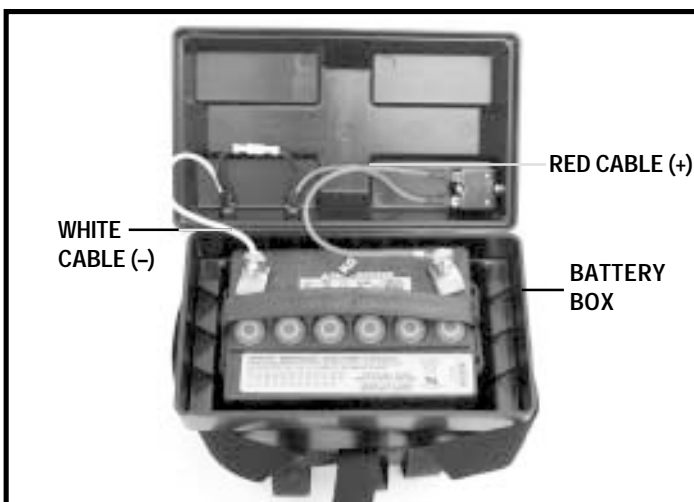

Figure 13. Battery Installation
2. Install each battery into a battery box. See figure 13. Connect the red cable to the positive (+) battery terminal and the white cable to the negative (-) battery terminal.